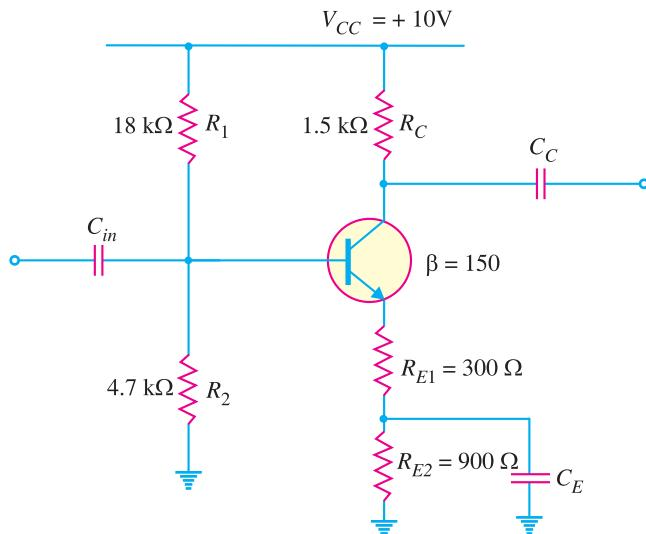

Fig. 10.38
**Example 10.21.** Determine the value of voltage gain ( $A_v$ ) for the swamped amplifier shown in Fig. 10.38. What will be  $Z_{in(base)}$  for this circuit ?